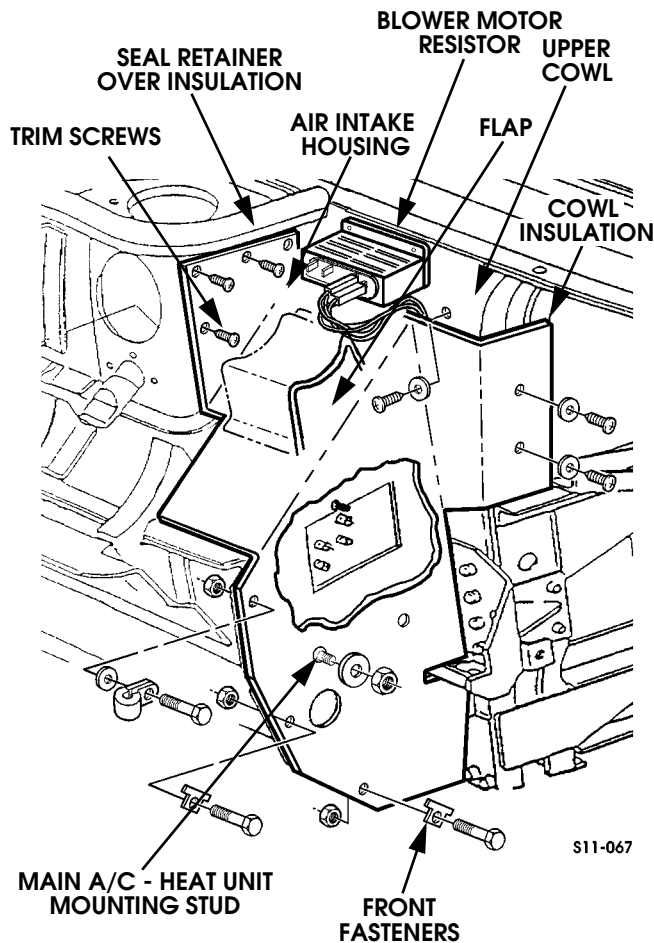

Figure 11-27: Cowl Insulation Mounting
7. Remove trim screws, as necessary, from insulation on air intake housing (Figure 11-27).
1. Position cowl insulation so that flap side is inserted under surge tank bracket (Figure 11-27).